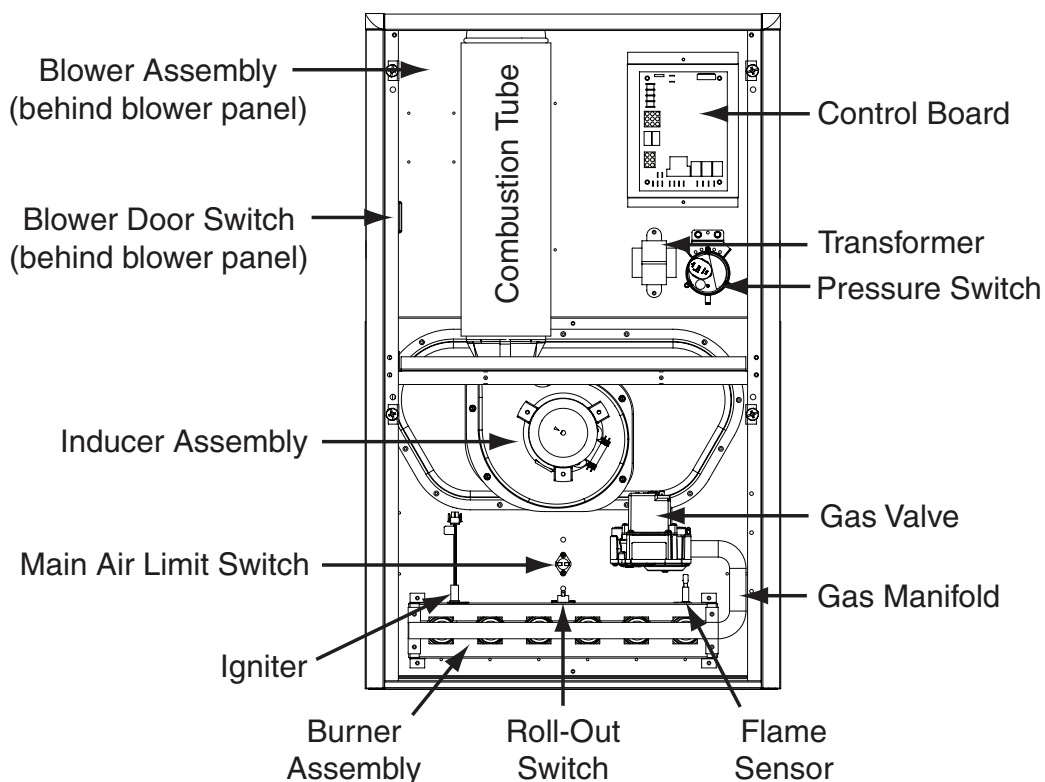

Figure 25. Component Locations
- If the inducer blower is operating and items above have been verified, check the blower limit switch and reset if necessary. See Figure 25, \(page 33\) for component location.
- If the furnace still doesn't operate, check the flame roll-out switch and reset if necessary. See Figure 25 for component location.
The descriptions below are various functional components that affect the operation and shutting down of this furnace. Some of these components and their locations are shown in Figure 25, \(page 33\). If any component of the furnace must be replaced, use only factory authorized replacement parts specified in the Replacement Parts List provided online.